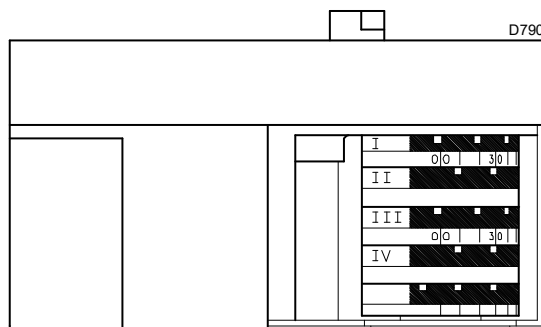
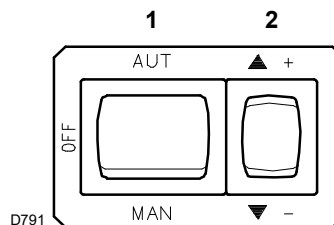
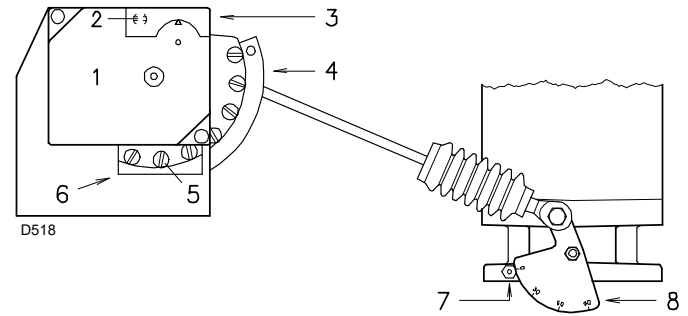

Fig. 25
Fig. 26
Fig. 28
The servomotor (Fig. 25) provides simultaneous adjustment for the air damper, by means of the variable profile cam, and the gas butterfly valve.
Switch off the remote controls and place the switch 1)(Fig. 26) to “MAN” position.
Press button 2)(Fig. 26 on page 23) "output reduction", (▼ -) and keep it pressed until the servomotor has closed the air damper and the gas butterfly valve at 20° (adjustment made in the factory).
- If it is necessary to reduce it, reduce slightly the angle of cam III (Fig. 25 on page 23) with small, regular movements, i.e. bring it from an angle of 20° to 18° - 16°....
- If it is necessary to increase it, press slightly button 2)(Fig. 26 on page 23) "output increase" (▲ +) (open by 10-15° the gas butterfly valve), increase the cam angle III (Fig. 25 on page 23) with small, regular movements, i.e. bring it from an angle of 20° to 22° - 24°....
Progressively adjust the starting profile of cam 4)(Fig. 28) by turning the cam screws visible through the access opening 6). It is preferable not to turn the first screw since this is used to set the air damper to its fully closed position.
Key (Fig. 28)
In the description above, the burner was left switched on, working at MIN output. Now press the button 2) (Fig. 26 on page 23) "output increase" (▲ +) and keep it pressed until the servomotor has opened the air damper and the gas butterfly valve at 90°.
Progressively adjust the end profile of cam 4)(Fig. 28) by turning the cam screws visible through the access opening 6).
Slightly press the button 2)(Fig. 26 on page 23) "output increase" (▲ +) so that a new screw 5)(Fig. 28) appears inside the opening 6)(Fig. 28); adjust it until optimal combustion is achieved. Proceed in the same way with the other screws.
Switch the burner off with the switch 1)(Fig. 26 on page 23), position OFF. Release the variable profile cam by putting the servomotor slot 2) (Fig. 28) in a vertical position and check more than once, rotating the cam forward and backward by hand, that the movement is soft and smooth, without sticking.